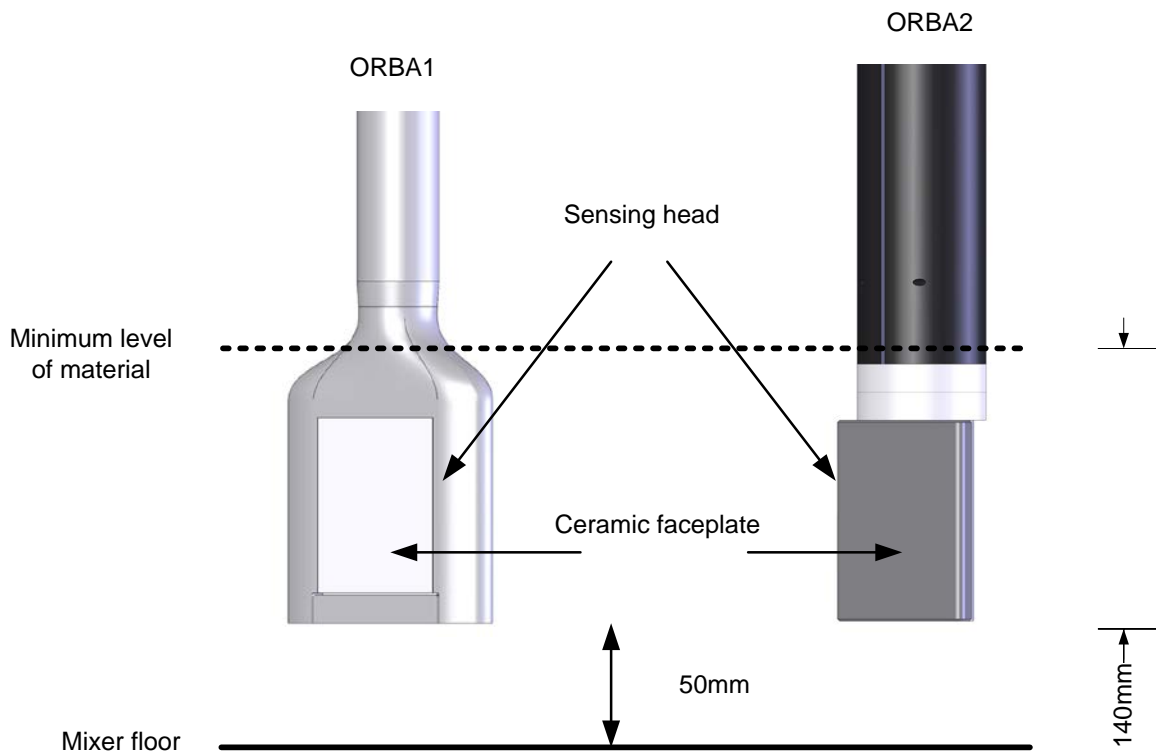

Figure 13: Height setting of the sensing arm
- The Sensing Arms are available in multiple lengths. The sensor should be mounted such that there is a 50mm gap between the underside of the Sensing Arm and the mixer floor (Figure 13).
The recommended height for typical applications is 50mm above the floor of the mixer (Figure 13). This height can be set using the angle aligner, which has a width of 50mm.